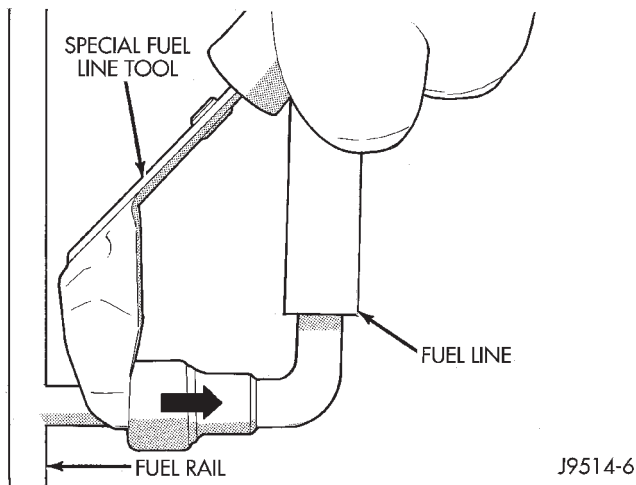

Fig. 21 Fuel Line Disconnection
(6) Insert special fuel line removal tool (Snap-On number FIH 9055-1 or equivalent) into fuel line (Fig. 21). Use this tool to release locking fingers in end of line.